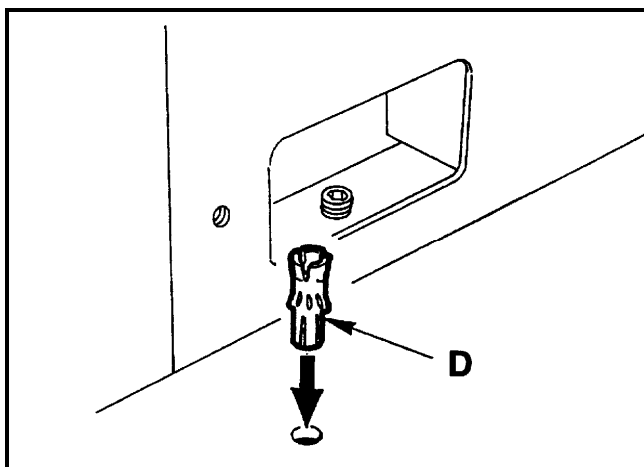

Fig. 05-03
- Drill and insert the two "STOP plugs" "D"- **Fig. 05-03**